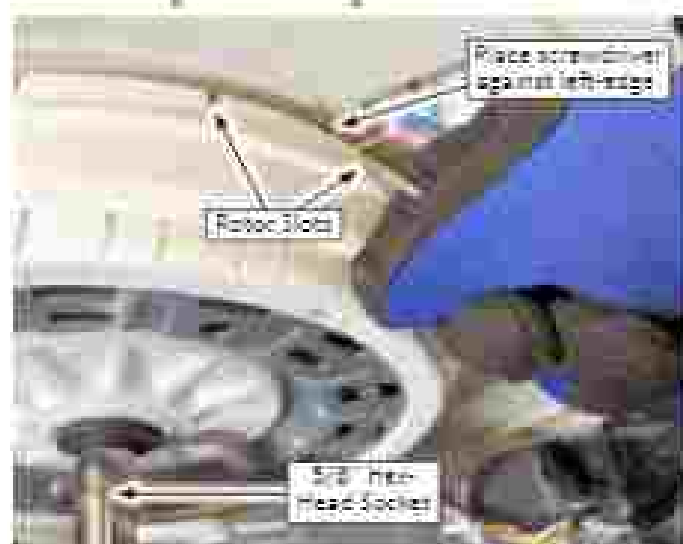

Figure 2
7. Block the rotor by inserting a narrow shaft flat-blade screwdriver into the slot at the back of the rotor as illustrated in Figure 2. Align the tip of the screwdriver with the channel left-edge when loosening the rotor bolt and the right-edge when tightening. See Figure 2.
8. While the rotor is blocked, use a ratchet and a 3/8" hex head bit to loosen the rotor bolt as shown in Figure 2.